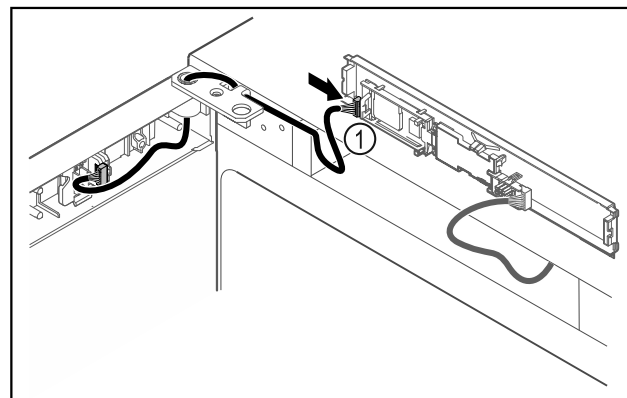

Fig. 40
- Connect the plug Fig. 40 (1) to the circuit board.